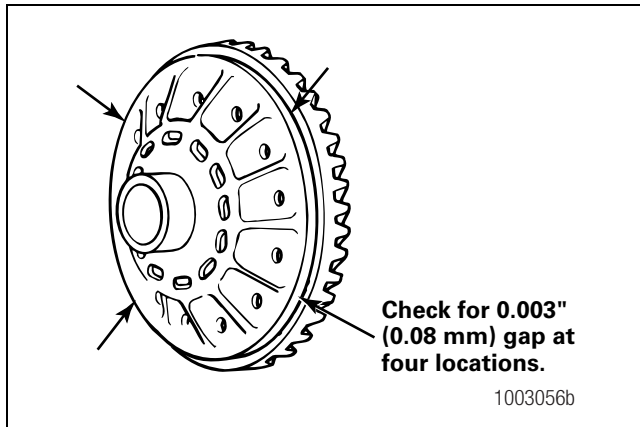

Figure 5.40
7. Use a 0.003-inch (0.08 mm) feeler gauge to check for gaps between the back surface of the ring gear and the case flange. Check for gaps at four points around the assembly. Figure 5.40.